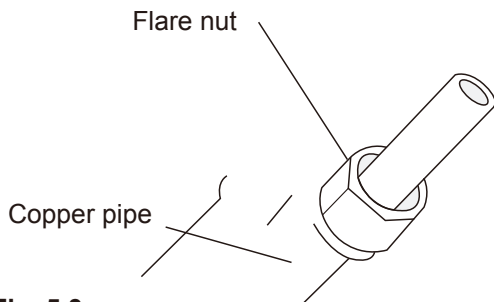

Fig. 5.3
3. Place flare nuts on both ends of pipe. Make sure they are facing in the right direction because you cannot put them on or change their direction after flaring. See Fig. 5.3.